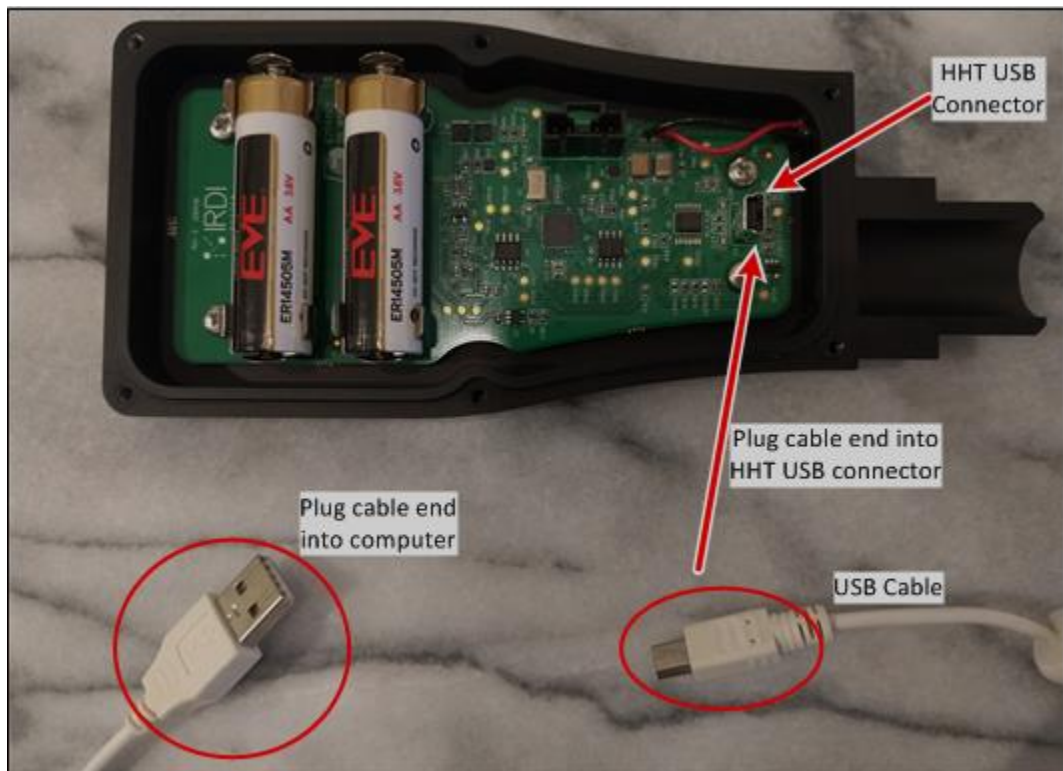

FIGURE 5-1 HHT PROGRAMMING SETUP
STEP 3	Attach the USB cable (5-pin Mini-b connector) to the USB connector on the HHT's circuit board – see Figure 5-1 above.